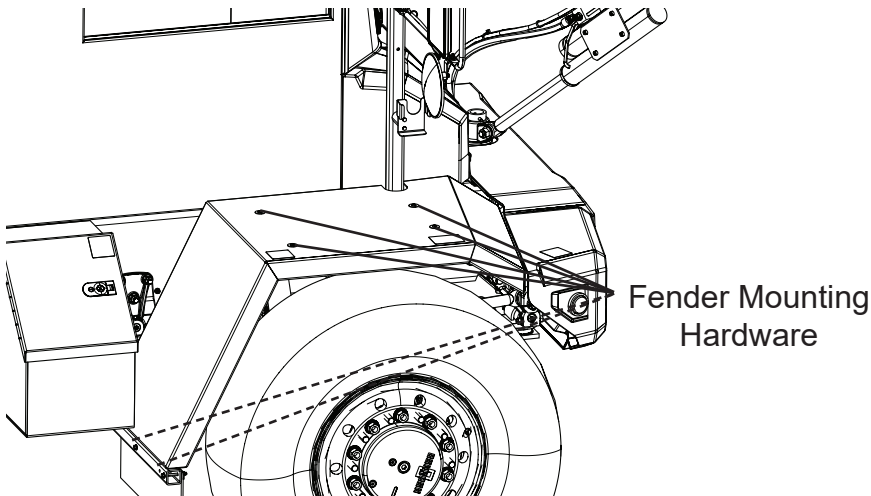

Figure 1 Right-Hand Fender Removal
3. Remove the 6 bolts/nuts and 12 washers securing the right-hand fender to the fender supports and remove the fender from the truck. See Figure 1.